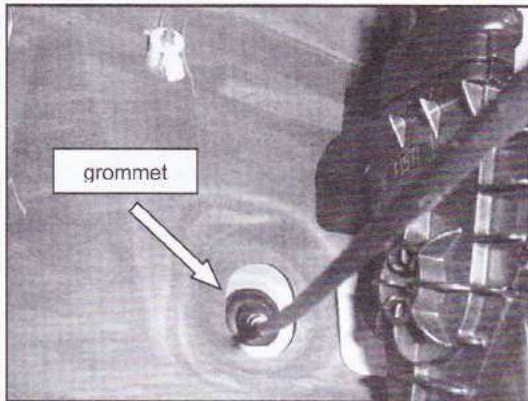

figure 9
12. Locate the bonnet release grommet on the firewall (refer to figure 9).